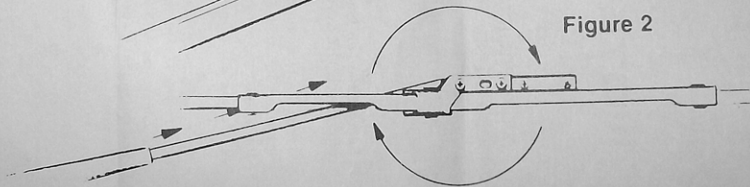

Figure 2
3. Take the wiper blade and rotate it 180° from its original position. (See Fig.2 . The mounting tab on the blade will now be facing right. Insert the wiper arm with extension bracket between the wiper blade frame and the rubber blade. Screw the blade to the extension with the screws provided.